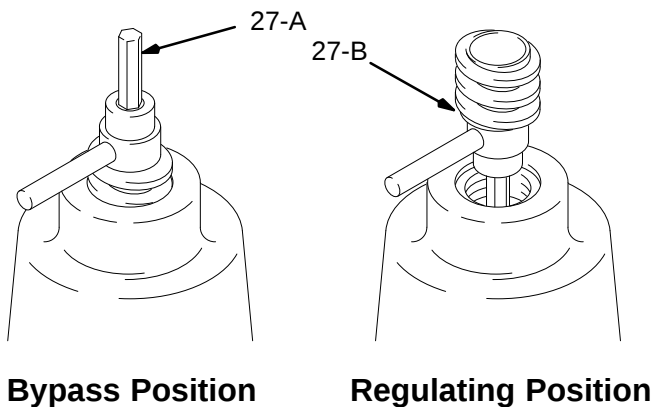

Fig 2 \_\_\_\_\_ 01585
1. Before opening the fluid ball valve or starting the pump, insert the hex end of the regulator key (27) into the adjusting screw (9) and turn it counterclockwise, all the way, to relieve the spring tension. See Fig 2, **Regulating Position**.
3. Screw the threaded end of the adjusting key (27), as far as possible into the regulator cap to open the regulator valve. See Fig 2, **Bypass Position**.
3. Using the hex end of the key (27) turn the adjusting screw (9) all the way counterclockwise to relieve spring tension. See Fig 2, **Regulating Position**.